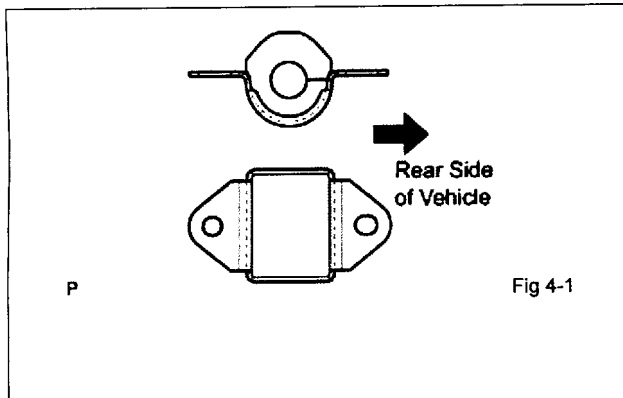

Fig 4-1
- (1) Be sure to install the rear stabilizer bushing so that the cut in the bushing faces the rear of the vehicle. (Fig 4-1)
- (2) Bushings should be positioned to the very edges of the straight portion of the sway bar.